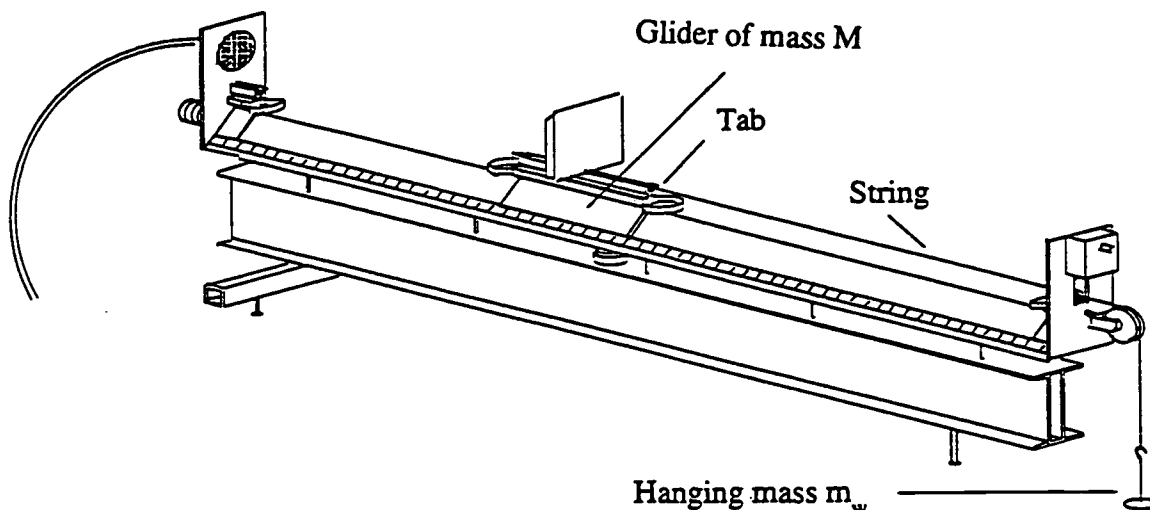

Figure 2: Part III: Airtrack with hanging mass.
A second, even more complex situation occurs when a hanging mass is linked to a glider on a level airtrack using a pulley and thread as shown in Figure 2. Here the  $\mathbf{W}$  is due to  $m_w$  but the net force exerted on the hanging mass  $m_w$  is diminished by the tension in the string, and the resulting motion depends upon the mass of the combined glider-hanging mass system, not simply the hanging mass. You will derive the exact relationship for the  $\Sigma \mathbf{F}$  of the glider-hanging mass system in your Prelaboratory Questions.
2. Attach the hanging mass  $m_w$  to the glider. Hook a thread to the tab attached to the glider, thread it through the hole in the ultrasonic transducer mounting plate and over the pulley as shown in Figure 2. Finally attach the weight hanger to the end of the thread. Be sure that the total hanging mass  $m_w$  is 15 g—the 5 g mass hanger plus an additional 10 g mass.